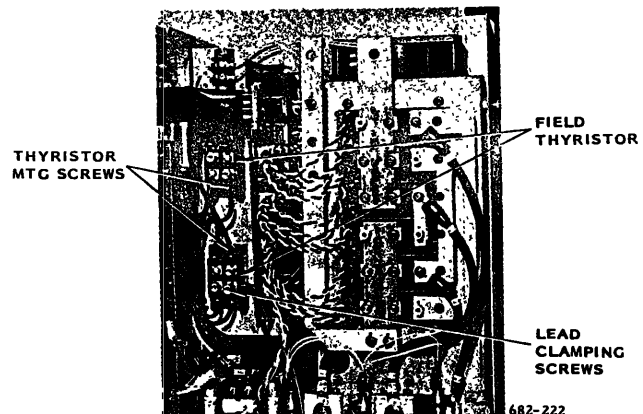

Fig. 12 With Snubber Board Removed
2. Remove lead clamping screws connecting to thyristor, and remove the leads from thyristor. In this case, mark all terminals for identification. See Fig. 12.
3. Remove thyristor mounting screws (2) and remove thyristor module.